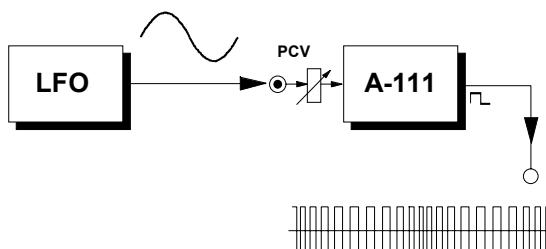

Fig. 15: Modulation of pulse width by an LFO
⑥ PCV
Socket **⑥** is the **pulse width** voltage control input socket for the VCO's rectangle wave. The level of voltage can be adjusted with attenuator **⑥**. Fig. 15 shows pulse width modulation with an LFO.
⑦ □ • ⑧ ↕ • ⑨ ^ • ⑩ ~